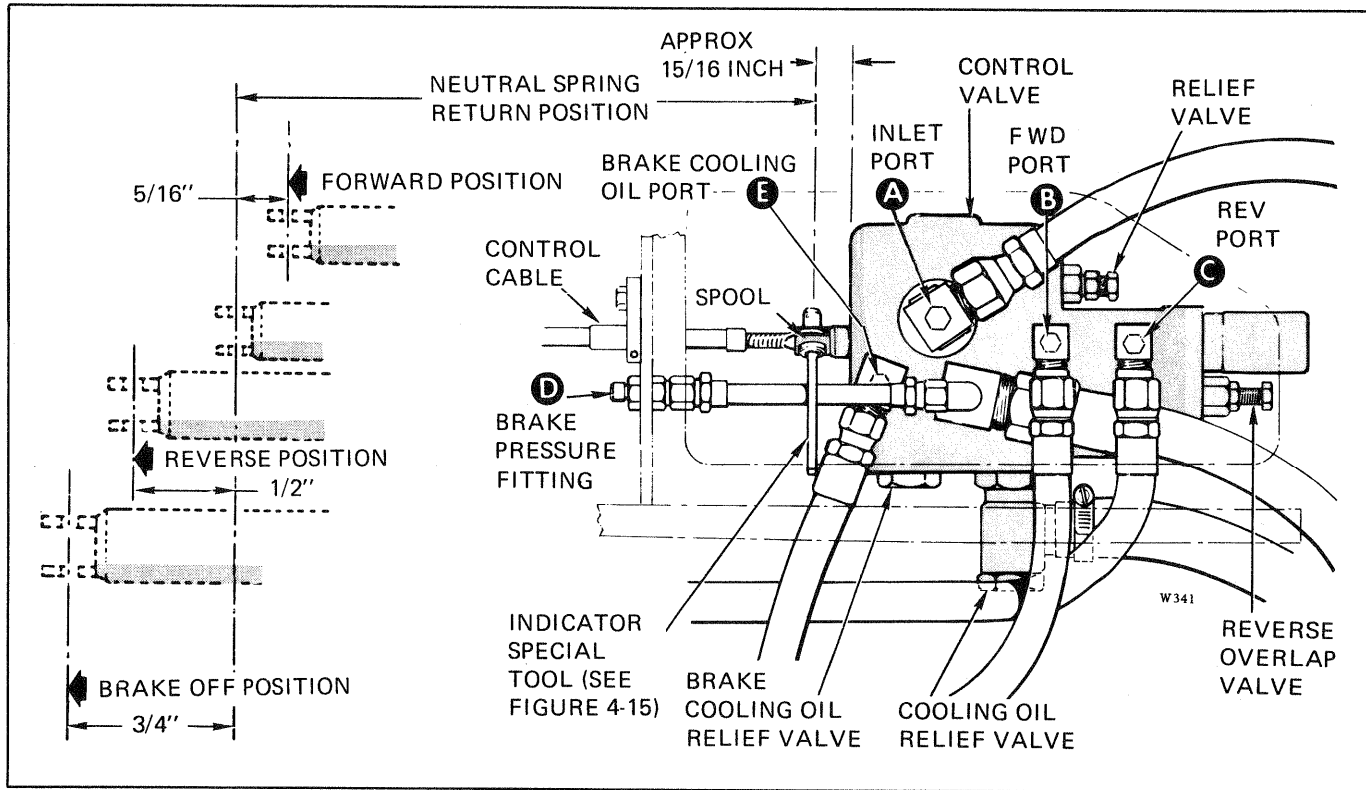

FIGURE 4-11. CONTROL VALVE SPOOL TRAVEL CHECK
o. Slowly move lever toward REVERSE until movement of control valve spool measures $3/8$ ($\pm 1/64$) inch travel from NEUTRAL (see Figure 4-11). Block or tie handle or apply clamp to valve spool to prevent control valve spool from returning to NEUTRAL.
- d. Move spool into body until it bottoms. This position is FORWARD and should be at 5/16-inch travel from NEUTRAL as shown in Figure 4-11. Pressure at port **B** should be 220 (± 10) PSI.
- e. Move spool out of body until the first stop is felt. This position is REVERSE and should be at 1/2-inch travel from NEUTRAL as shown in Figure 4-11. Pressure at port **C** should be 220 (± 10) PSI.
- f. Move spool out of body, past the stop felt in step d, into the detent lock-up position. This position is BRAKE OFF and should be at 3/4-inch travel from NEUTRAL as shown in Figure 4-11. Pressure at fitting **D** should be 220 (± 10) PSI.